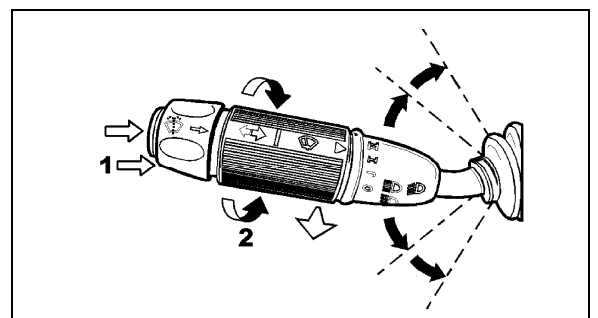

FIGURE 35: MULTIFUNCTION LEVER 23133
Rotate the multifunction lever forward to activate lower windshield wipers (arrow 2, fig. 35). The first position operates the wipers at low speed and the second position operates the wipers at high speed. Turning the lever backwards will operate the wipers in the intermittent mode.
The lower windshield washer pump is electrically operated and is controlled by a washer control ring on the multifunction lever (item 1, fig. 35).